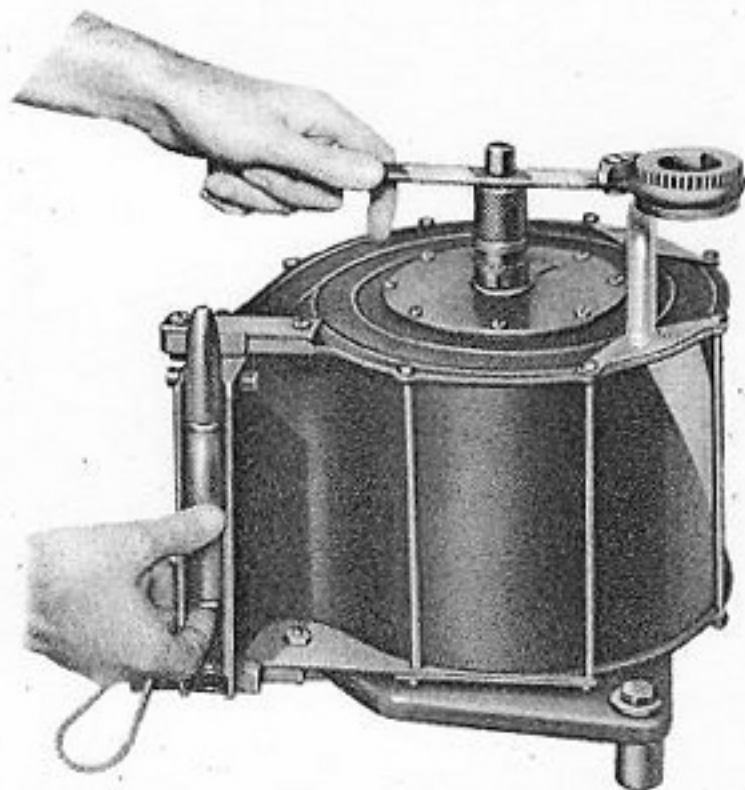

Figure 59. Unloading a Partially Filled or Tensioned Magazine.
2. **Full Magazine with Initial Tension.** Relieve the spring tension by carrying out Operations 1, 2, 3, and 4 of RELIEVING SPRING TENSION. Place the magazine lever on the magazine as shown in Fig. 59 and turn it counter-clockwise with one hand so that a cartridge is always being pressed against the magazine mouthpiece. Push out the rounds